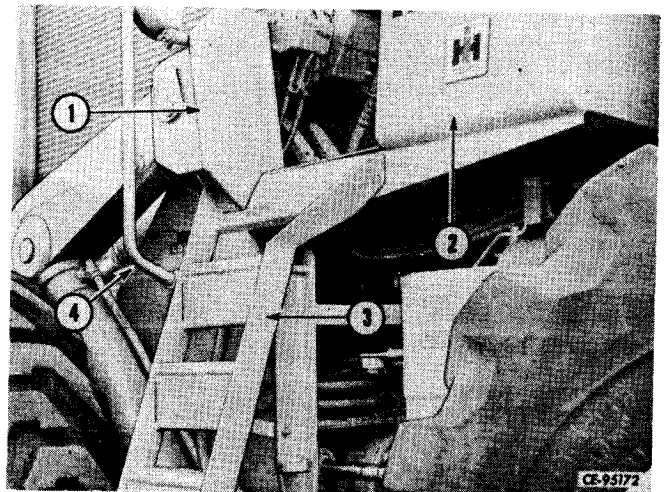

Figure 4-89
Install ladder (3, Fig. 4-89) and hand rail (4) and secure with cap screws to front frame (1) and operator's compartment (2).